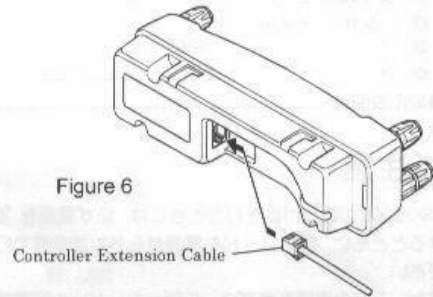

Figure 6
6. Referring to Figure 6, insert the plug of the Controller Extension Cable into the corresponding jack on the Front Panel.